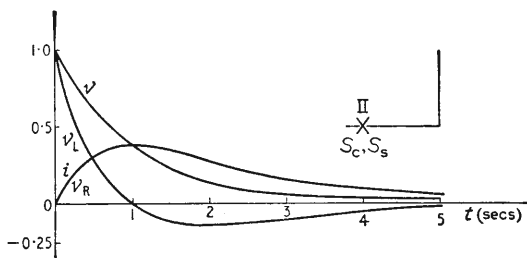

Fig. 9. Corresponding to Fig. 8 but with source and circuit frequencies equal, achieving perfect (but imaginary) resonance.
Doubling the rate of v die-away (i.e., doubling its complex frequency) so that it comes into exact resonance with the circuit, and using (5) to plot the results, we get Fig. 9, which is remarkably un sensational. So far from the response being infinitely large, it is actually less than before, owing to the shorter duration of the excitation. Otherwise, there is no significant difference, although now the rise from zero i is due to the factor t in (5), not present in (3).